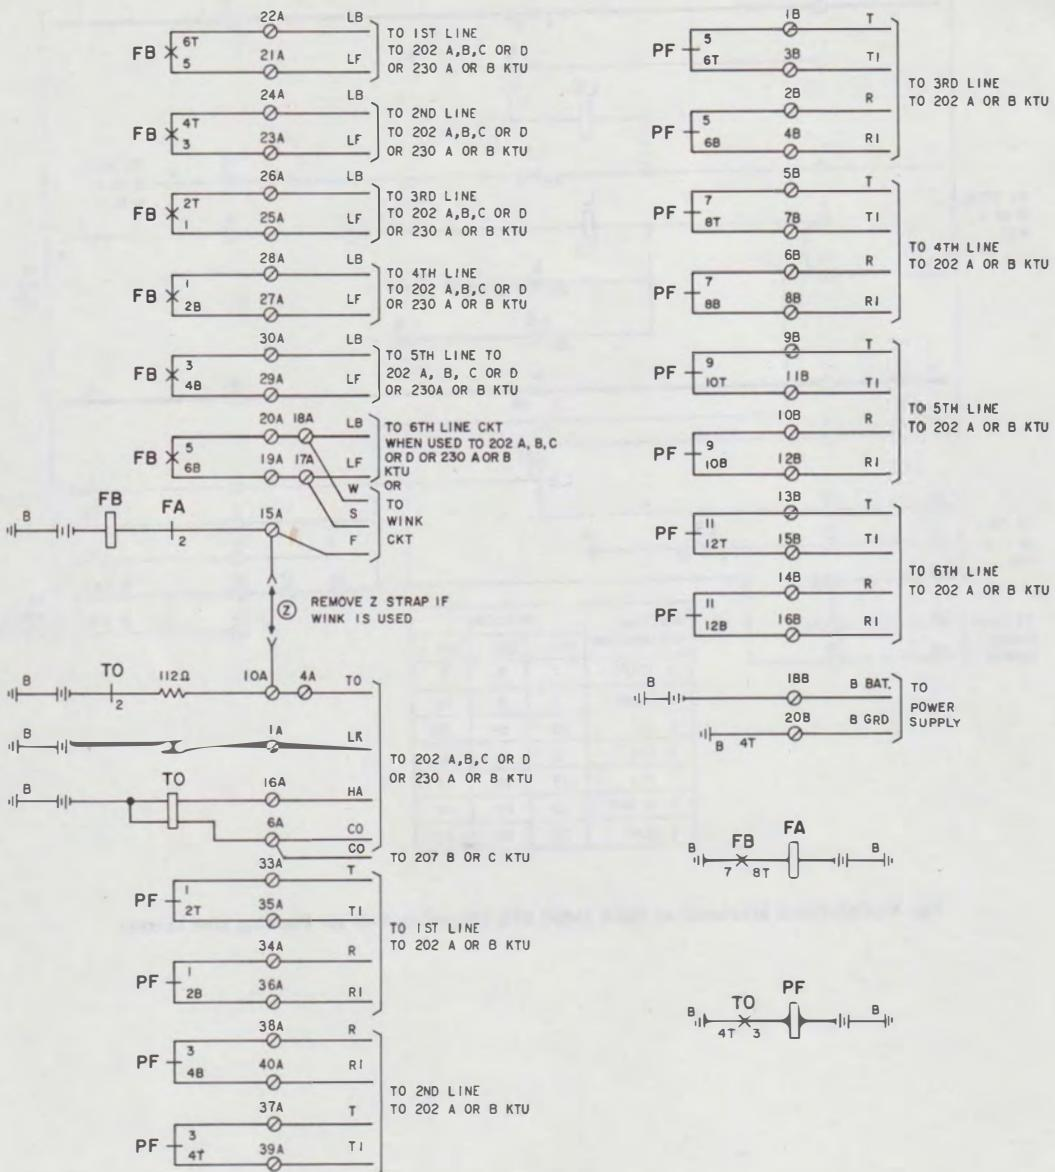

Fig. 10—Functional Schematic of 209A (MD) KTU (Lamp Flashing and Time-Out Circuit)¶
**209A (MD) KTU (Lamp Flashing and Time-Out Circuit)**
**2.13** The 209A KTU (Fig. 10) is used on CO or PBX lines to provide: